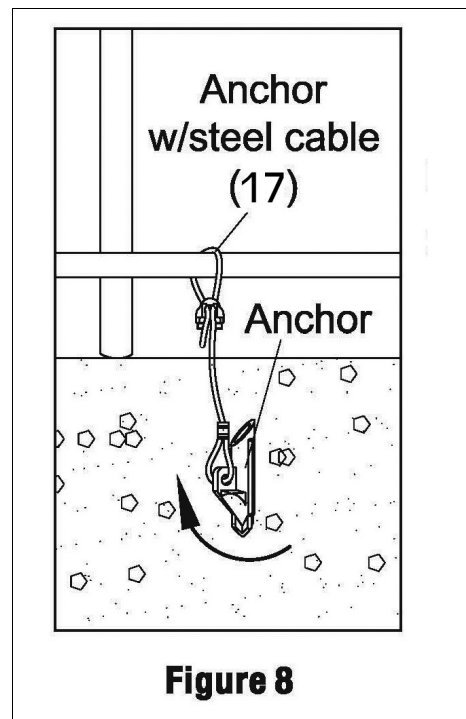

Figure 8
1. From the inside of the garage, place the anchors with Steel Cable (17) on all four corners. Place the remainder of the anchors on the inside of the bows at intervals. See Figure 8.
5. After placing all the anchors, wrap the wire cable from each anchor, around the Bottom Rails and securely attach it to itself using clamps (25) (not shown). See Figure 8.